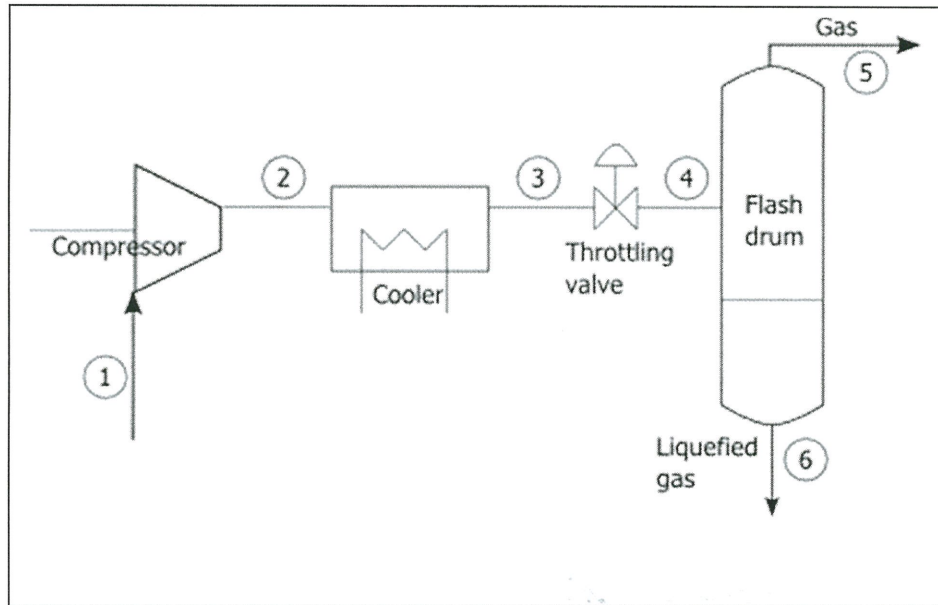

Figure Q4
- Q4** Producing liquefied natural gas (LNG) can be illustrated in **Figure Q4**. Pure gas methane is in state 1 at 1 bar and 280 °C. Leaving the cooler in state 3, methane is at 100 bar and 210 K. The flash drum is adiabatic and operates at 1 bar. The compressor consists of three stages with intercooling. Each stage of compression works isentropic. The first stage compresses the gas from 1 bar to 5 bar, the second stage from 5 bar to 25 bar, and the third compressor increases
- (e) Improve the plant efficiency to achieve the highest LNG of methane by modifying **Figure Q4**.